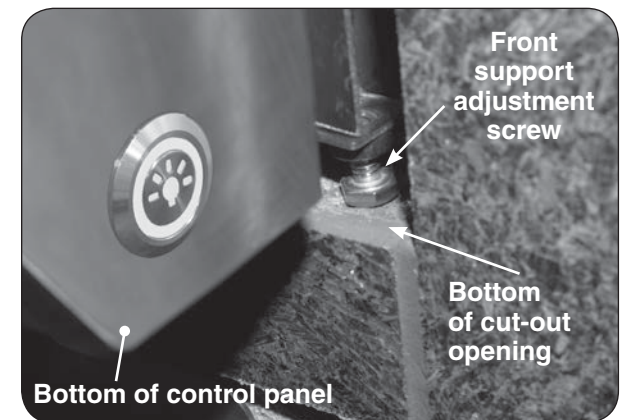

Fig. 22-3 Front support adjustment screws
6. Rotate the front support adjustment screws to the left to raise and to the right to lower the respective side of the appliance griddle. Use a $\frac{7}{16}$ " open-end wrench as needed. See Fig. 22-3.